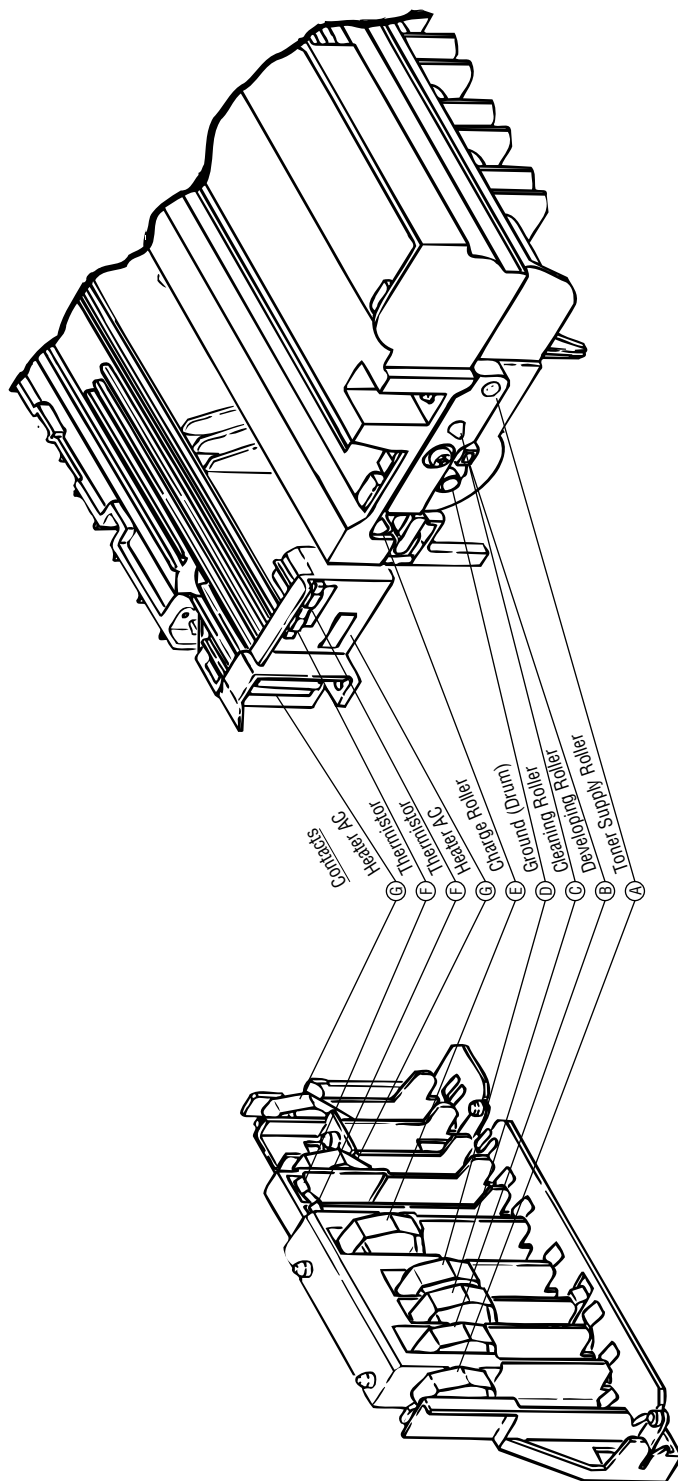

Figure 6-4
- Yes Is the contact of the image drum unit in proper contact with the ground contact properly (see Fig. 6-4 ④)?
④
▼• No Are the contacts of the toner supply roller, developing roller, image drum and charging roller in proper contact with the contact assy (see Fig. 6-4 (A), (B), (C), (D), (E))?
- Yes      Is the contact of the fusing unit assy in proper contact with the contact assy (see Fig. 6-4 ㉔)?
⑧